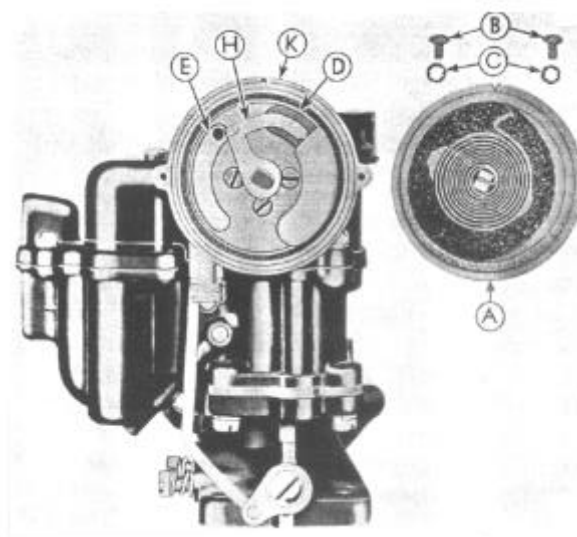

Figure 438
(157) Move choke piston lever (H) counterclockwise to remove choke piston (I) then remove choke piston lever and shaft assembly (H) (Figure 438).
(158) Remove three piston plate attaching screws (Figure 438).